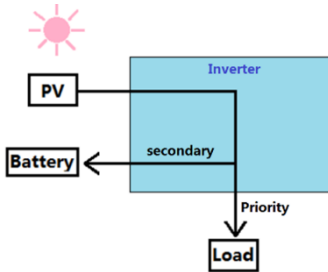

Figure1-10
2. If PV is sufficient, PV supply power to the load priority, then charge battery. ( Figure1-10)